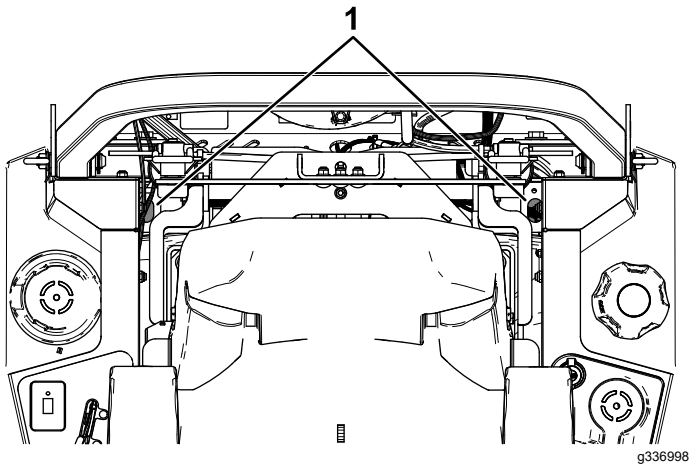

Figure 68
4. Using an extension and 7/16-inch socket, access the vent plug from the top of the machine through the holes near the roll-bar mounts (Figure 68).